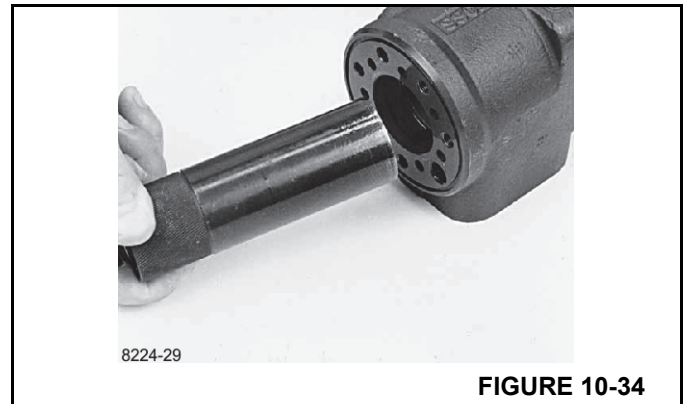

FIGURE 10-34
7. Turn the steering unit until the bore is horizontal. Guide the outer part of the assembly tool into the bore for the spool/sleeve (Figure 10-34).